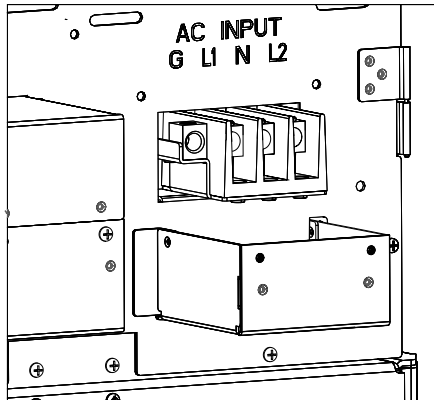

Figure 40. No AC Input
No AC Input = Extended Run-Time Battery Support (see Figure 40).
5. Connect the EBM AC input cables to the AC supply and the DC output cables to the UPS (see Figure 40).